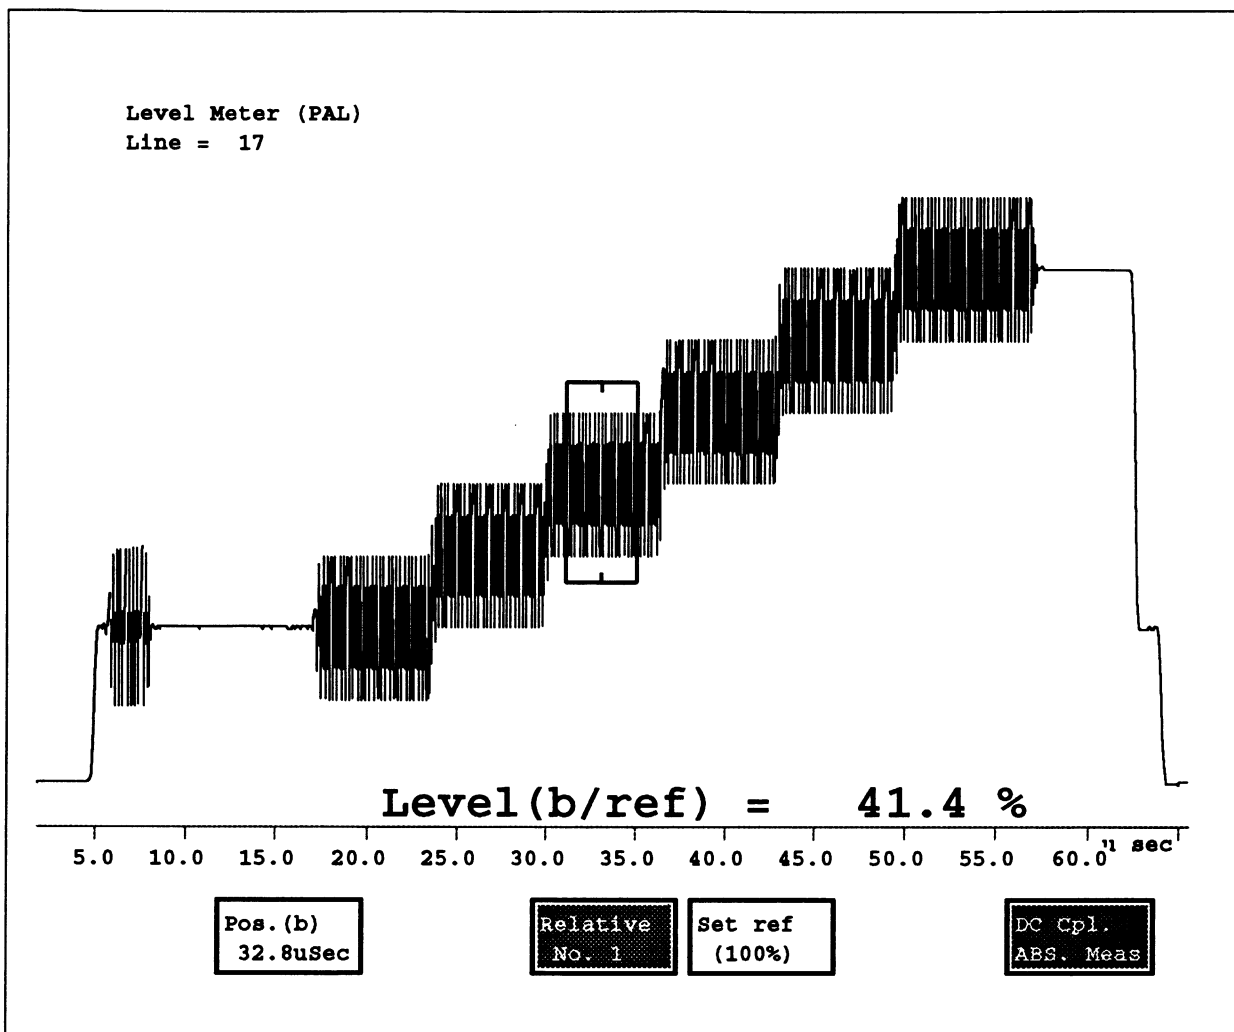
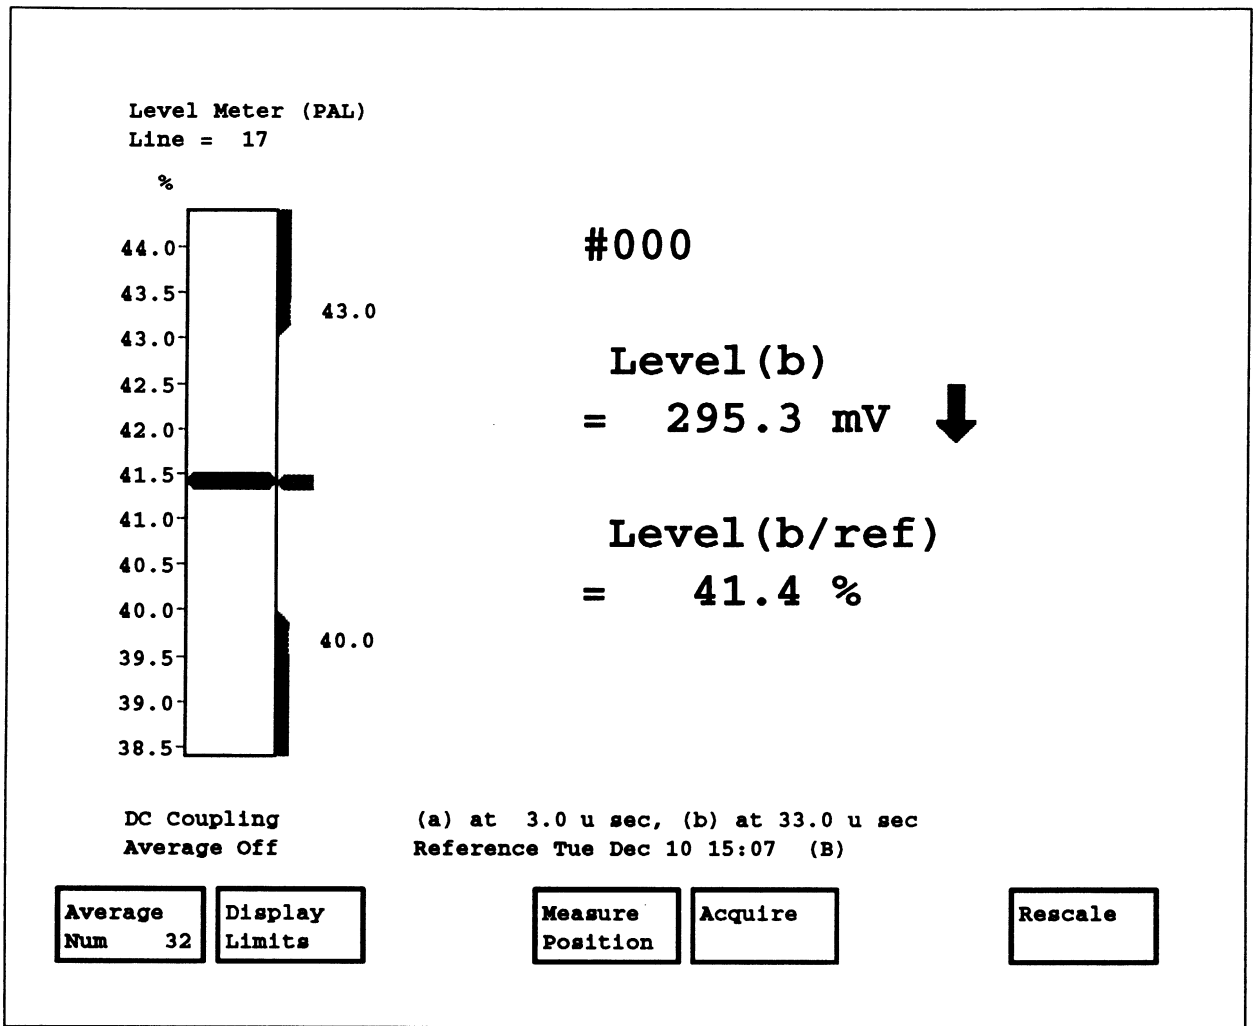

Figure 2-43. Display Position display showing absolute measurement referenced to 714 mV as 1005.
Figure 2-44. Level Meter display as a result of the setup shown in Figure 2-70.
**Measure Position** displays a menu and waveform for positioning the measurement cursors. The amplitude measurement may be set for the cursor difference (b-a) in mV, cursor difference (b-a/reference) in percent relative to a reference, or cursor position with respect to zero. The number of cycles over which the measurement is made is also selectable for each cursor. The **Measure Cycles n** display indicates the current selection for the active cursor. The measure position display is illustrated in Figure 2-43 showing the cursors positioned to measure the nominal peak-to-peak amplitude of the PAL color bar test signal. The active cursor has a vertical marker attached.
In Figure 2-43, the reference is set to 714 mV as the 100% reference, and the measurement is based on the difference between the vertical position of the cursor and zero as a result of also selecting **DC Cpl. ABS. Meas.**
DC Cpl. ABS. Meas switches to dc coupling of the input signal and produces a measurement value based on the vertical position of cursor b with respect to zero volts (ground) as seen in Figure 2-43. The Level Meter display that results from setting up for a referenced and absolute amplitude is seen in Figure 2-44.